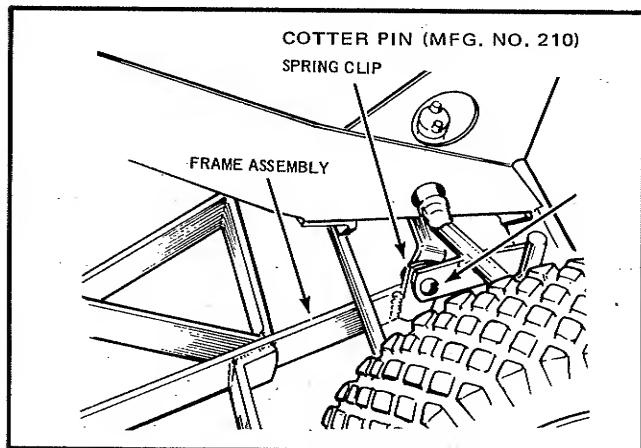

FIGURE 6
1. Slide the sickle bar frame assembly under the right hand side of the tractor and attach to the front mounting brackets of the tractor with pins and spring clips or cotter pins (Mfg. No. 210) as shown in Figure 6.